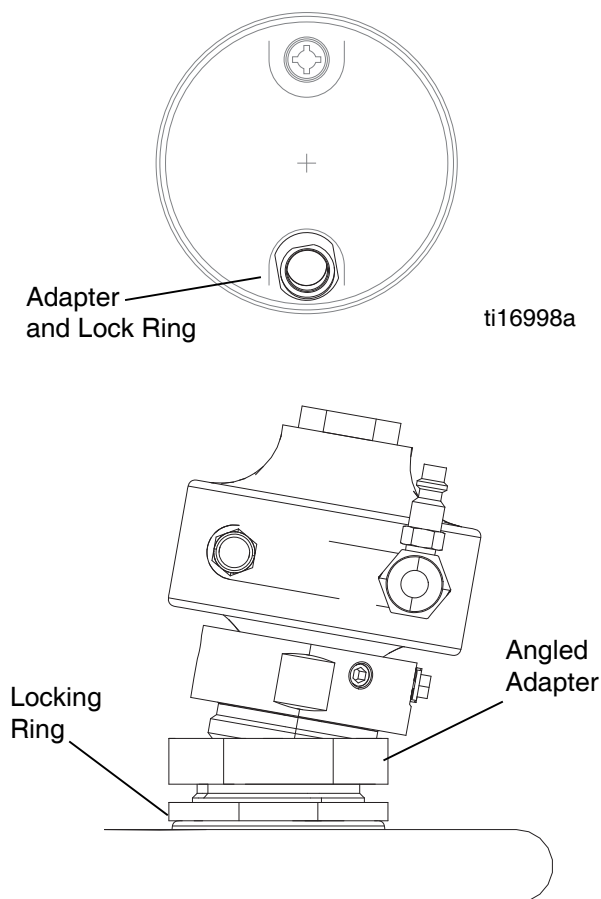

FIG. 4: Angled Adapter
2. Thread the angled adapter into the bung until it bottoms out, then back it out until the widest portion on of the adapter top is pointing just to the left of the center of the drum (Fig. 4).